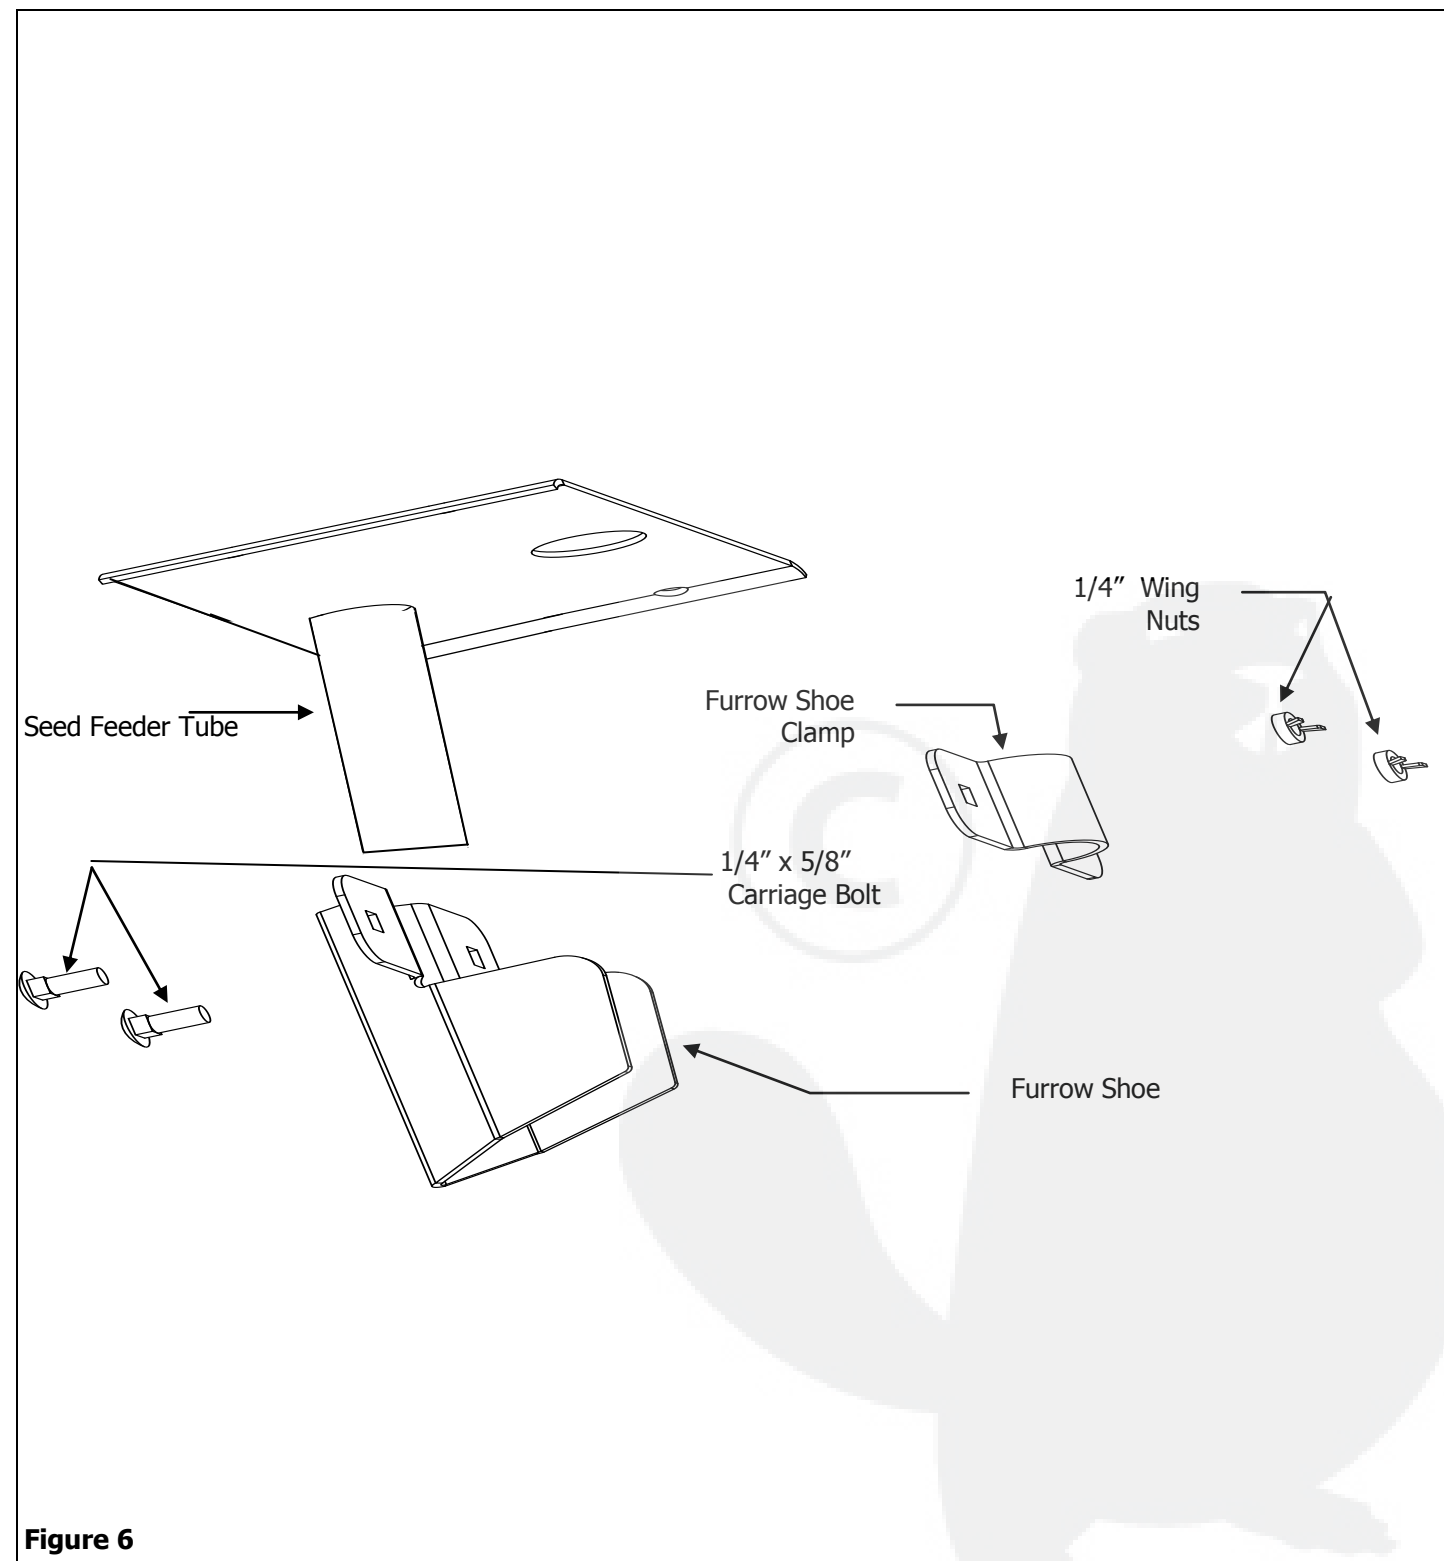

Figure 6
6. Take Furrow Shoe and Furrow Shoe Clamp, joining them together using two 1/4" x 5/8" Carriage Bolts and two 1/4" Wing Nuts. Do not tighten until you place them onto the Seed Feeder Tube and set at the appropriate height. See Figure 6.